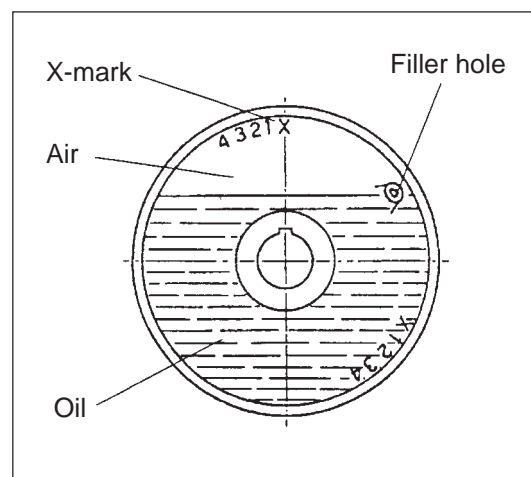

Figure 16. Topping up with oil
1. Rotate the clutch so that the x-mark on its side points directly upwards (Fig. 16).